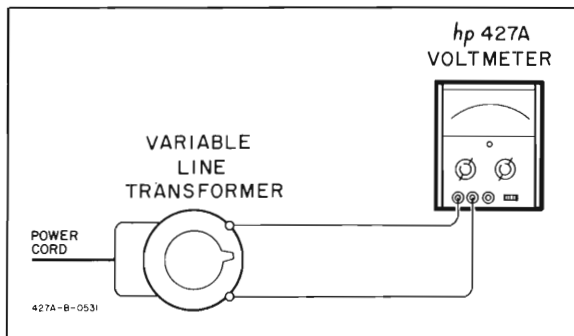

Figure 5-4. AC Rejection Check
5-19. A peak ac superimposed noise signal 100 times the full scale input should affect the Model 427A reading less than 1%. Figure 5-4 shows the test setup using a variable line transformer as a noise generator. A 7.07 volt rms output from the variable line transformer corresponds to a 10 volt peak noise signal. The 10 volt noise signal will be applied to the 0.1 volt dc range.
- b. Switch the FUNCTION to ACV and the RANGE to 10. Connect the variable line transformer and the Model 427A as shown in Figure 5-4.